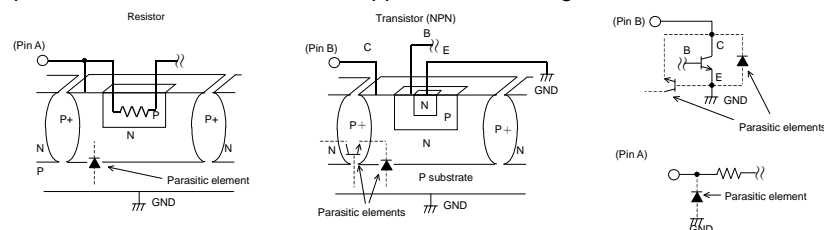

Fig.18 Example of a Simple Monolithic IC Architecture
- 8) This monolithic IC contains P+ isolation and P substrate layers between adjacent elements in order to keep them isolated. P/N junctions are formed at the intersection of these P layers with the N layers of other elements to create a variety of parasitic elements. For example, when the resistors and transistors are connected to the pins as shown in Fig. 18, a parasitic diode or a transistor operates by inverting the pin voltage and GND voltage. The formation of parasitic elements as a result of the relationships of the potentials of different pins is an inevitable result of the IC's architecture. The operation of parasitic elements can cause interference with circuit operation as well as IC malfunction and damage. For these reasons, it is necessary to use caution so that the IC is not used in a way that will trigger the operation of parasitic elements, such as the application of voltages lower than the GND (P board) voltage to input and output pins.